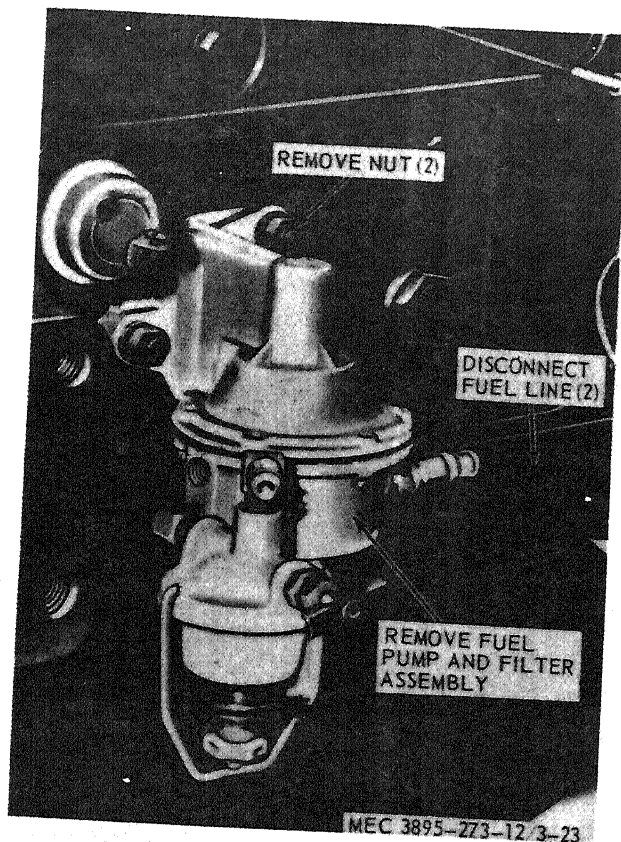

Figure 3-21. Fuel pump, removal and installation.
a. Removal. Remove the fuel pump from the engine as instructed on figure 3-21.
- (1) Clean all parts with an approved cleaning solvent.
- (2) Inspect the fuel pump for wear, leaks, defects, and damage.
- (3) Replace a worn, damaged, or defective fuel pump.
c. Installation. Install the fuel pump in reverse of the instructions on figure 3-21. Put new gasket in between pump-flange and pad.